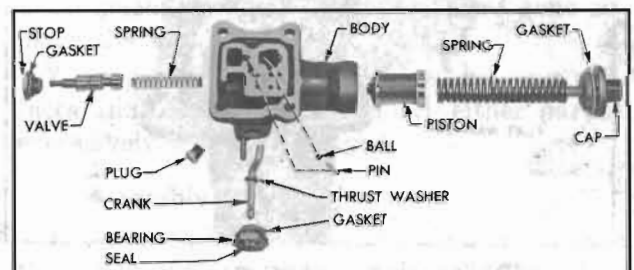

Figure 5-70—High Accumulator—Disassembled
2. Remove the pipe plug, cap, gasket, spring (2 in low) and piston from accumulator body. Keep parts separated so that same parts will be reinstalled in same body. See figure 5-70.
3. *On high accumulator only*, remove clamp bolt, lever, bearing with seal, gasket, thrust washer and control valve crank from accumulator body, then remove valve stop with gasket, control valve and spring. See figure 5-70.
11. *On high accumulator only,* install spring, control valve and stop, then install crank with thrust washer, bearing with new gasket and seal (grooved side inward), operating lever and clamp bolt. See figure 5-70.